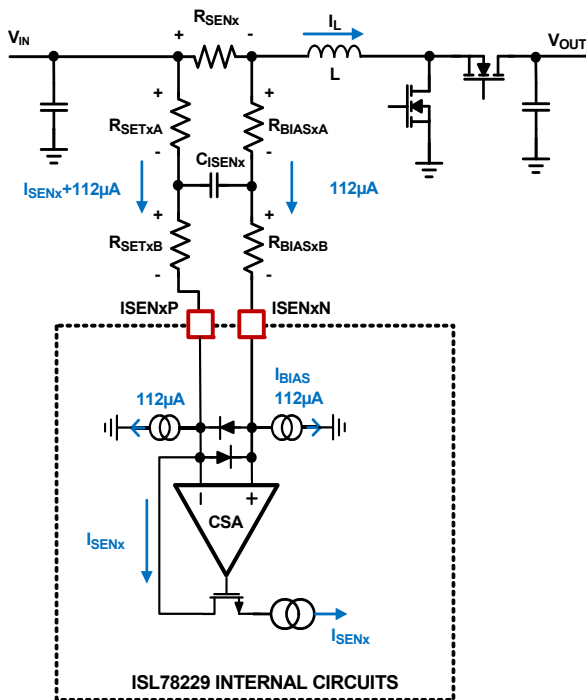

FIGURE 69. CURRENT SENSING BLOCK DIAGRAM
The ISL78229 peak current control architecture senses the inductor current continuously for fast response. A sense resistor is placed in series with the power inductor for each phase, and the ISL78229 Current Sense Amplifiers (CSA) continuously sense the respective inductor current as shown in Figure 69 on page 32 by sensing the voltage signal across the sense resistor R_{SENx} (where “x” indicates the specific phase number and same note applied throughout this document). The sensed current for each active phase is used for peak current mode control loop, phase current balance, individual phase cycle-by-cycle peak current limiting (OC1), individual phase overcurrent fault protection (OC2), input average Constant Current (CC) control and average overcurrent protection (OC_AVG), diode emulation, and phase drop control. The internal circuitry shown in Figure 69 represents a single phase. This circuitry is repeated for each phase.
The RC network between R_{SENx} and $ISENxP/N$ pins as shown in Figure 69 is the recommended configuration. The $ISENxP$ pin should be connected to the positive potential of the R_{SEN_CHx} through resistor R_{SETx} , where in Figure 69 R_{SETx} is composed by R_{SETxA} plus R_{SETxB} . R_{SET} is used to set the current sense gain externally.
Because there is a 112μA bias current sinking to each of the $ISENxP$ and $ISENxN$ pins, R_{BIASx} with the same value to R_{SETx} should be placed between the $ISENxN$ pin to the low potential of the R_{SENx} , where in Figure 69 R_{BIASx} is composed by R_{BIASxA} plus R_{BIASxB} .
It is recommended to have $R_{SETxA} = R_{BIASxA}$ and $R_{SETxB} = R_{BIASxB}$, and insert a capacitor (C_{ISENx}) between them as shown in Figure 69. This forms a symmetric noise filter for the small current sense signals. The differential filtering time constant equals to $(R_{SETxA} + R_{BIASxA}) \cdot C_{ISENx}$. This time constant is typically selected in range of tens of ns depending on the actual noise levels.